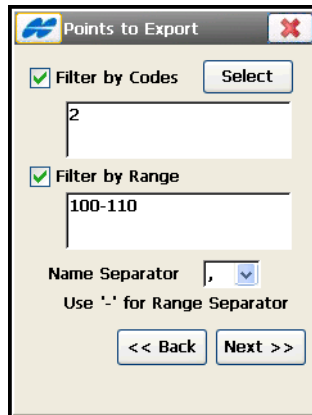

Figure 5-22. Points to Export
6. If *By Range and Code* was selected in the *Points* drop-down menu, on the **Points to Export** screen, select the codes and/or the range of points to be exported (Figure 5-22 on page 5-17).